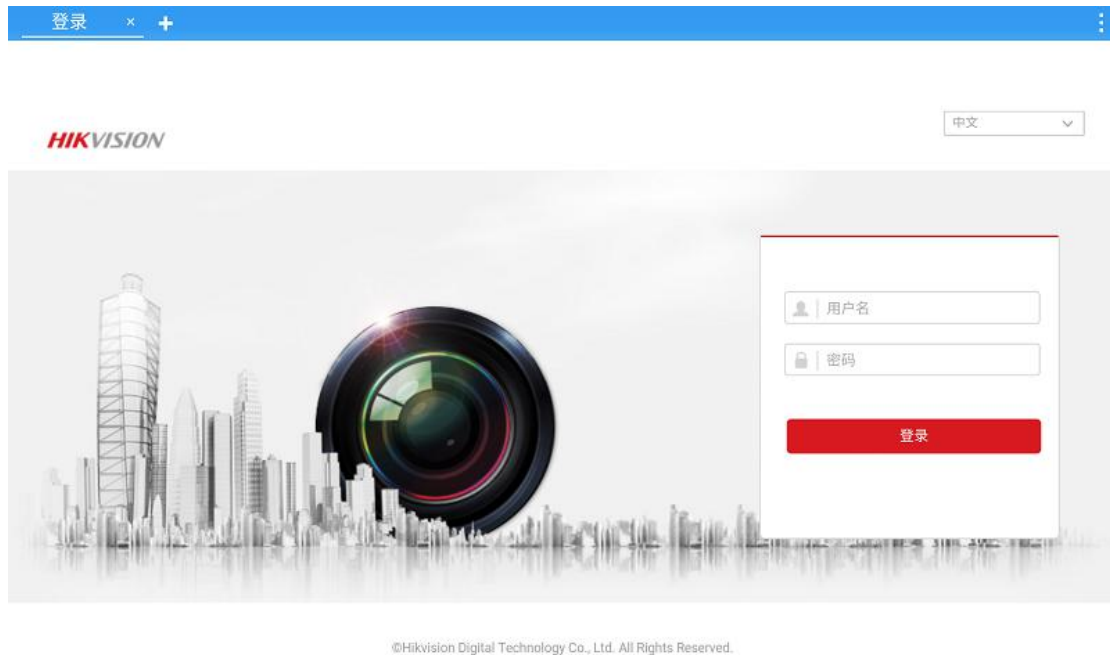

Figure 39
1) Browser function enables user to access the IPC camera directly through web page, touch the 'Browser' icon to enter browser function, input camera IP address directly in address bar to open the camera web page, as shown in Figure 39 (notice: all IPC testers in the market do not support installing plug-ins for browser).